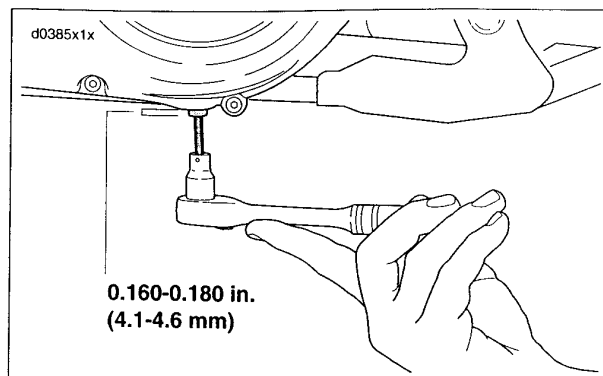

Figure 1-24. Removing Chaincase Drain Plug
1. See Figure 1-24. Remove drain plug at bottom of primary chaincase. Drain lubricant into suitable container.